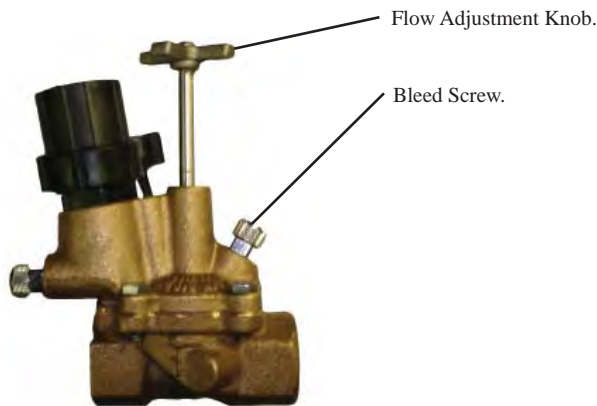

Fig. 2
1. Close the flow adjustment knob (Fig 2).
11. Open the flow adjustment knob (Fig 2).
pressure the fill valve will need to be bled of any entrapped air pockets. To bleed the fill valve open the bleed screw on the control valve (Fig 2) until all air is bled from the system.
Monitor the rate of fill, if the sump is overflowing beyond the 12” set point the fill adjustment knob (Fig 2) will need to be closed one to two turns to minimize the overshoot.